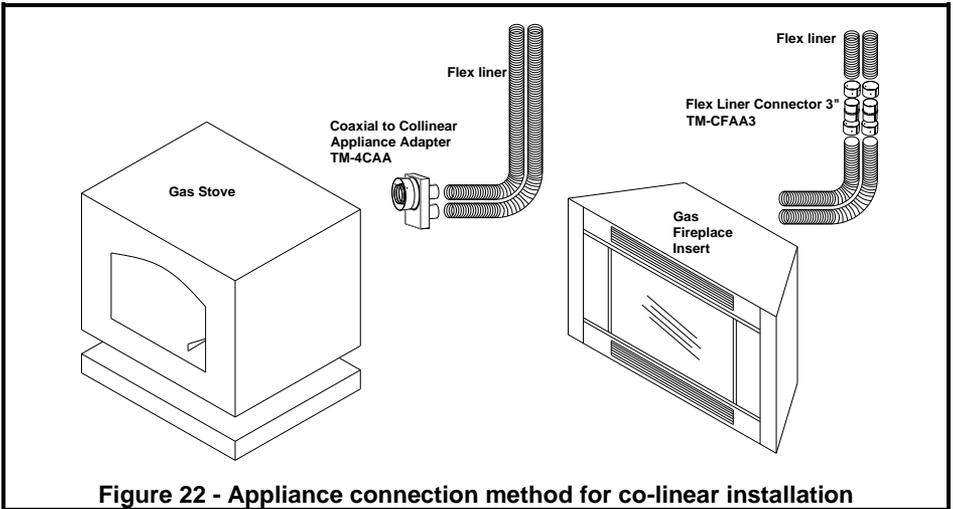

Figure 22 - Appliance connection method for co-linear installation
3. Slide the two flex liners down through the masonry chimney one by one. Be careful when you pass through the damper not to damage the flex liner. If you have to join two lengths of flex liner together use the Flex Liner Connector (CFAA3) as shown in Figure 22.
6. Depending upon the type of connection your appliance has, it will require you to connect the two flex liners directly to the appliance or to install the Co-axial to Co-linear Appliance Adapter (4CAA). See Figure 22.